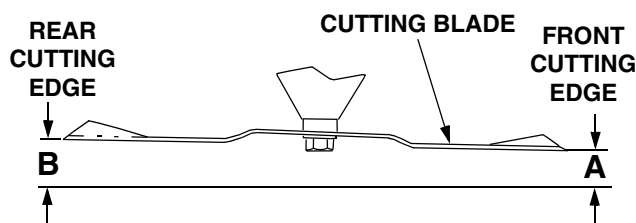

Figure 51
3. Refer to Figure 51. Measure and record the distance from the front cutting edge to the ground (measurement A), and from the rear cutting edge to the ground (measurement B), for each of the blades. The front edge of each blade (measurement A) should be lower than its back edge (measurement B) by 1/8 to 1/4 inch.